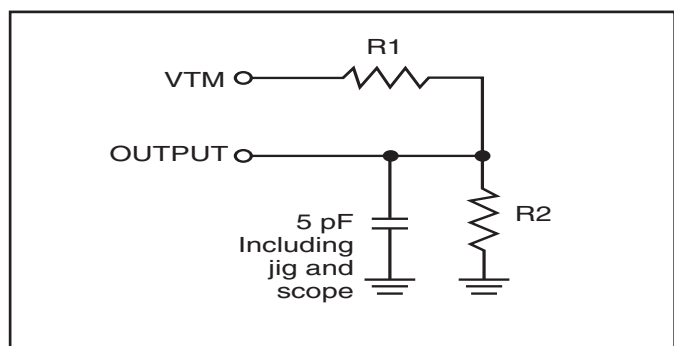

Figure 2.
2. Tested with the load in Figure 2. Transition is measured ±500 mV from steady-state voltage. Not 100% tested.